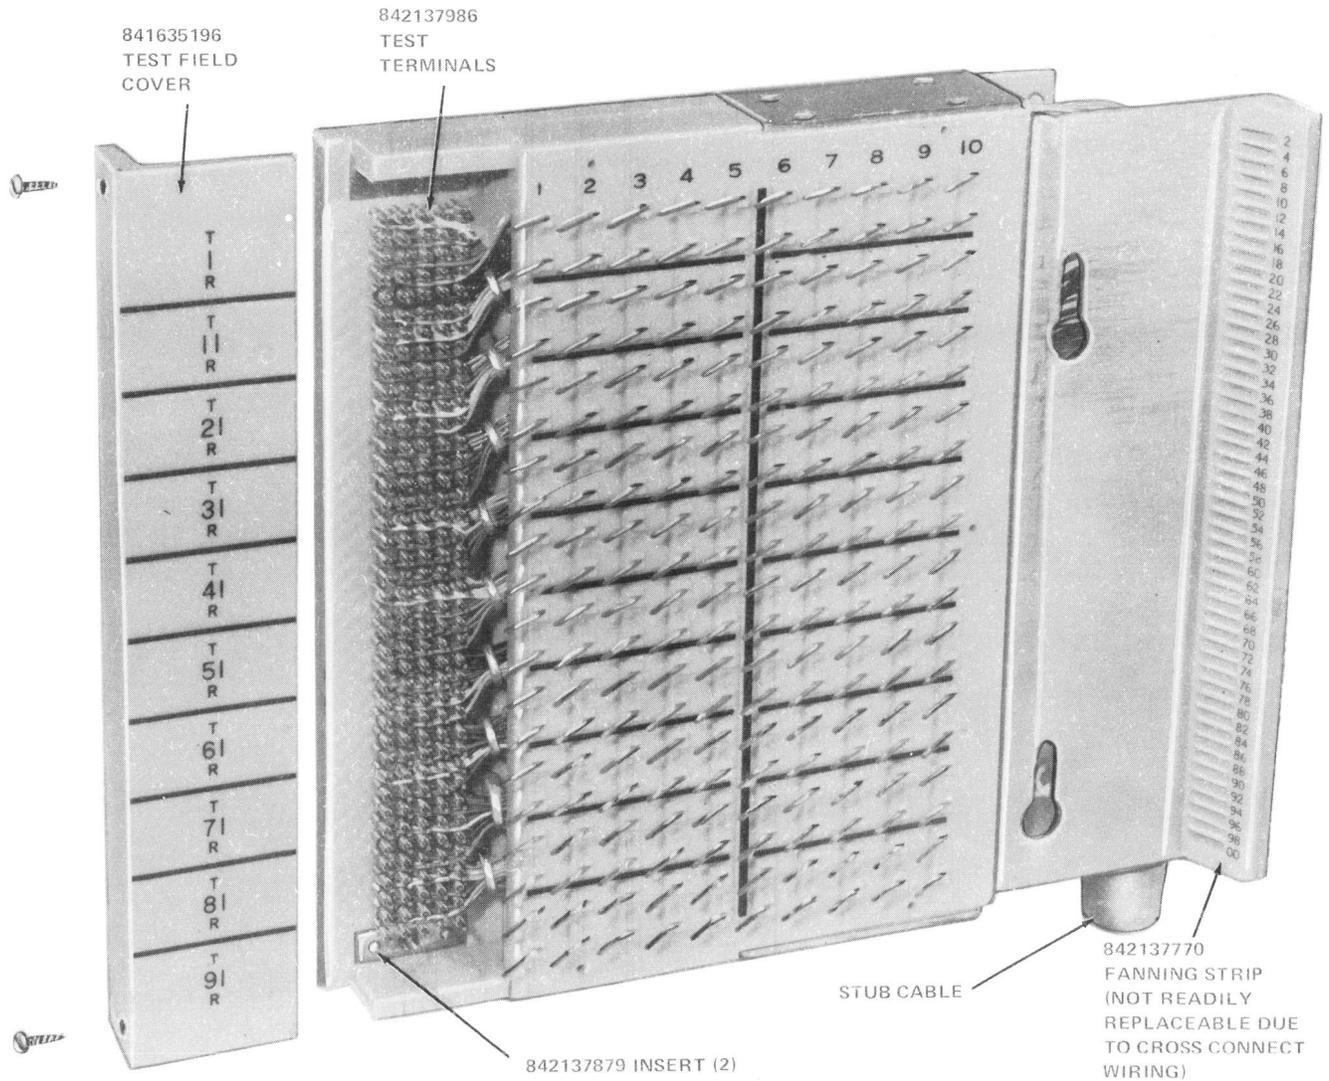

Fig. 6—305-Type Connector—Test Field Cover and Terminal Guard Removed
6.01 *841635196 Test Field Cover (Fig. 6):* To replace cover proceed as follows:
- (1) Facing the front of the connector, remove the test field cover as directed in paragraph 6.01.
- (2) Observe the mounting of the inserts. At the left side of the connector, remove and retain the two flathead screws which secure the insert in position.
- (3) Remove the insert carefully to prevent a short in the test terminal field. See Fig. 6.
- (4) Install the insert and secure with the two screws removed in Step (2).
- (5) Replace the test field cover as directed in paragraph 6.01, Steps (3) and (4).
8.01 To repair a broken or damaged wire conductor leading from the moisture plug of the stub cable and through the mounting bracket of the 305-type connector (Fig. 6), proceed as follows: